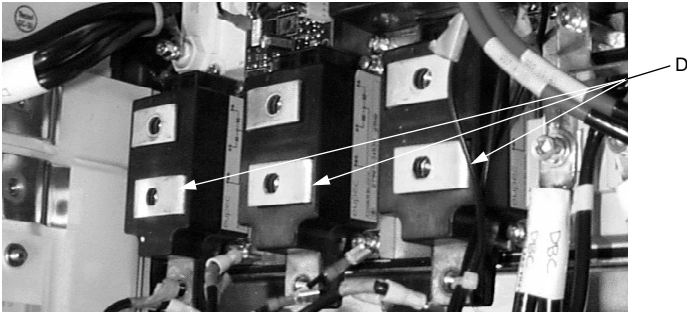

Figure 4.2.26: Line Rectifier Diodes with Flex Bus Work Removed
9. To remove a diode module (**D** in Figure 4.2.26), remove the mounting screws (four or two). Using a flat blade screwdriver, gently pry the diode module up from the heatsink. Be careful not to damage the surface of the heatsink.